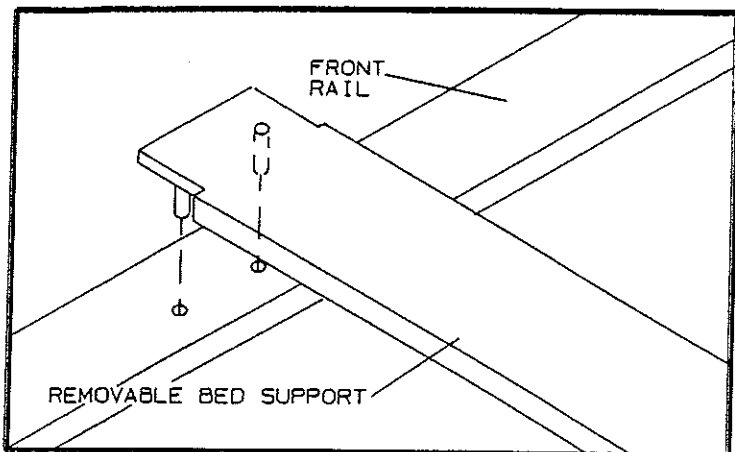
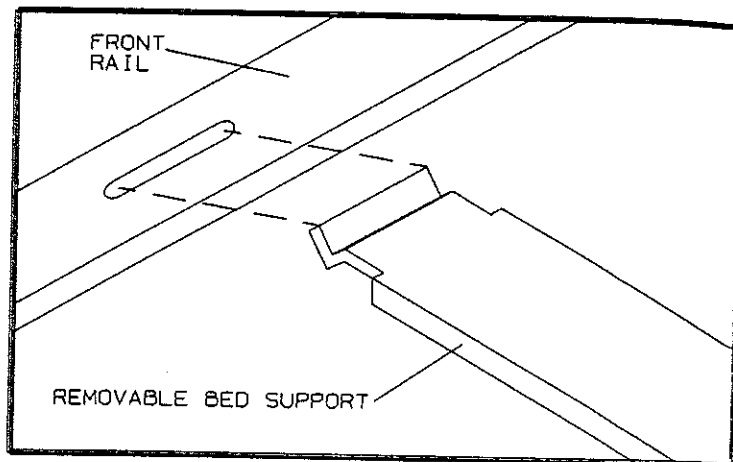

FIGURE 15
FIGURE 16
**IMPORTANT:** Depending on the trailer model, the portable bed supports will attach to the front body rail with retaining pins as shown in Figure 15 or by inserting the retaining tongue end of the support into the slot located on the front rail as shown in Figure 16.